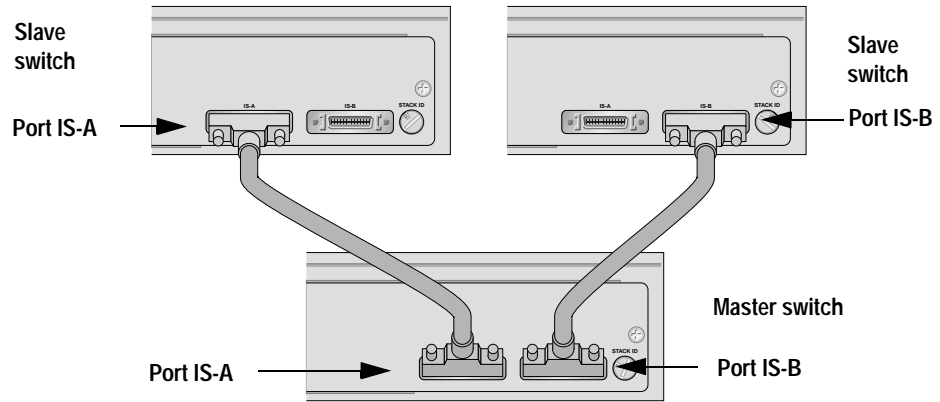

Figure 3-8 Valid Cabling Configuration for a Stack of Three Switches
6. Connect one AT-CABLE-4 cable between the IS-A ports on the master switch and a slave switch, and another AT-CABLE-4 cable between the IS-B ports on the master switch and the other slave switch. Refer to Figure 3-8.